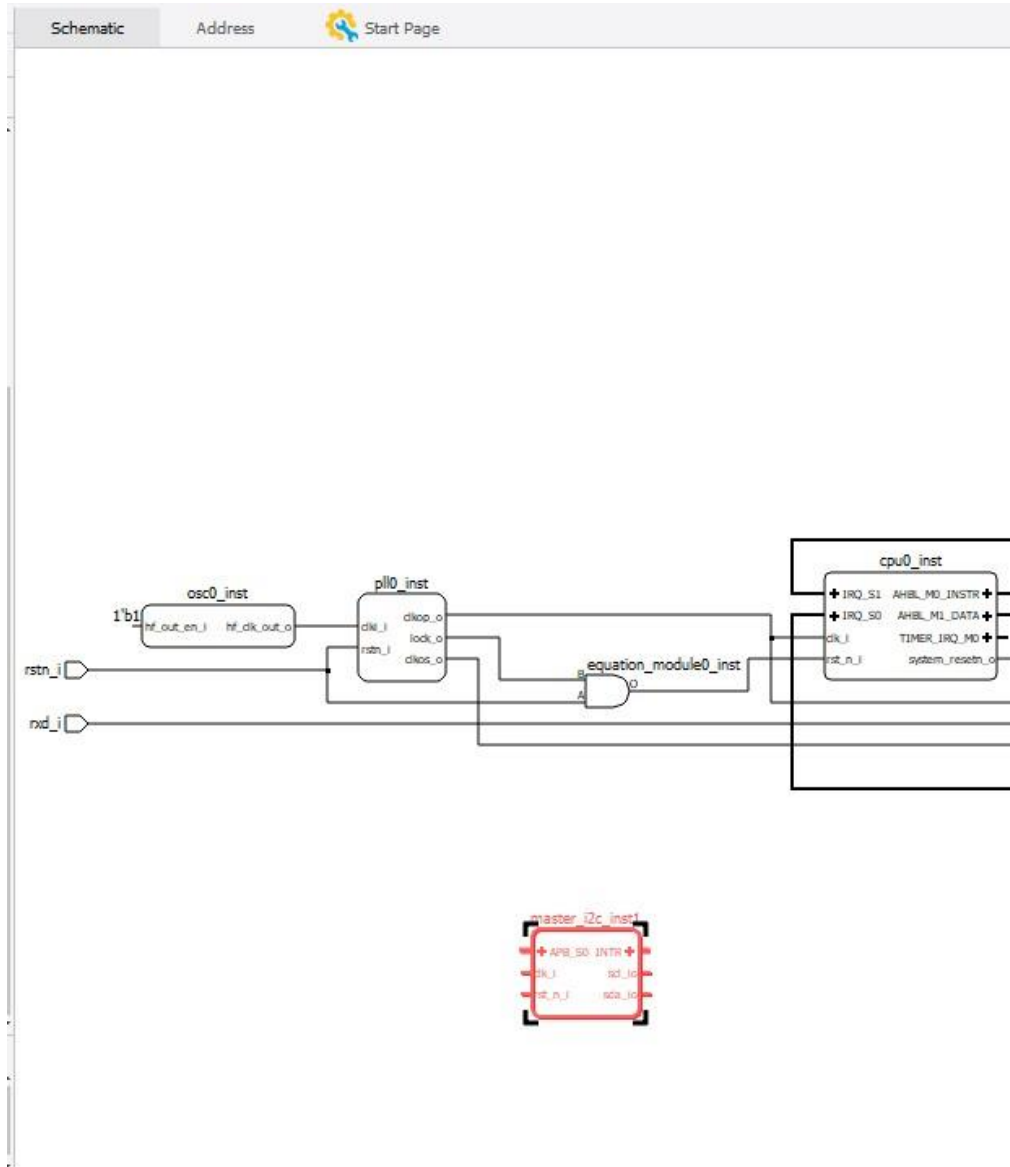

Figure 3.11. Propel Builder – I²C Master added to Schematic
7. The Propel Builder will drop the unconnected I²C Master component on the schematic, as shown in Figure 3.11.